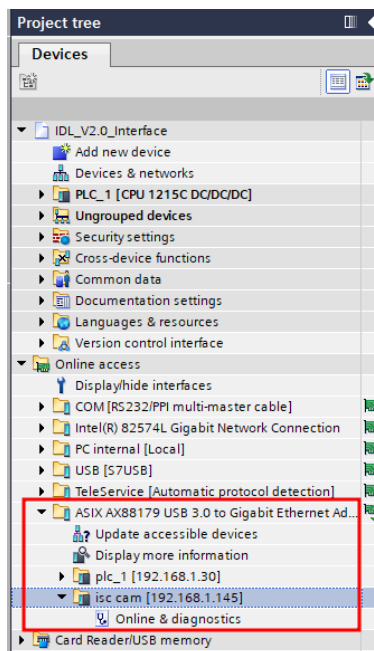

Figure 11: Online Access for Connecting ISC CAM to Project
20. In TIA Portal program open "Online access" find and open the adapter which is connected to ISC CAM. An ISC CAM device with the same IP address shall be listed under that adapter, Figure 11.
21. Open the ISC CAM device in the "Online access" tree. Go to "Online & diagnostics," Figure 11.